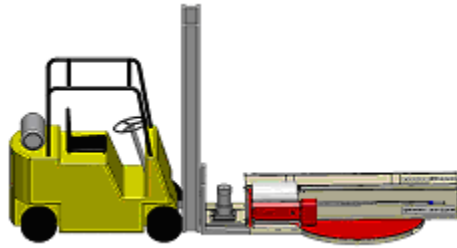

Fig. 2-3
**Step 1** - Place the machine in the desired location using a tow motor or crane capable of handling a load of 3,000lbs. (See Fig. 2-3)